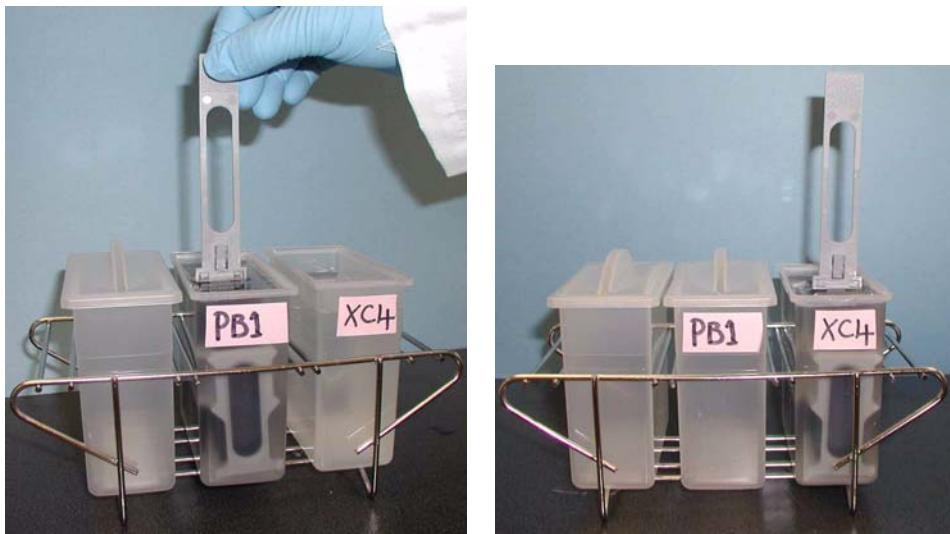

Figure 62 Moving BeadChips from PB1 to XC4
11. Remove the staining rack from the PB1 dish and place it directly into the wash dish containing XC4 (Figure 62). The barcode labels on the BeadChips must **face away** from you, while the locking arms on the handle **face towards** you, for proper handling and coating.